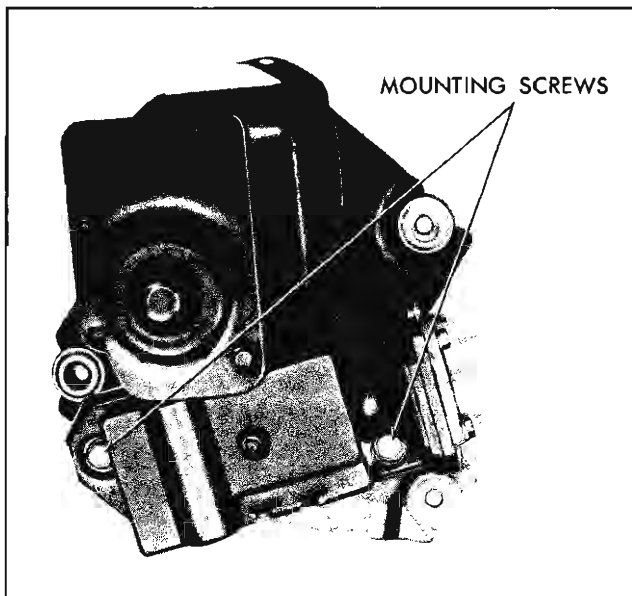

Fig. 11-66 Washer Pump Mounting Screws
1. For wipers equipped with a washer pump remove the two washer pump mounting screws (Fig. 11-66) and lift washer pump off wiper.